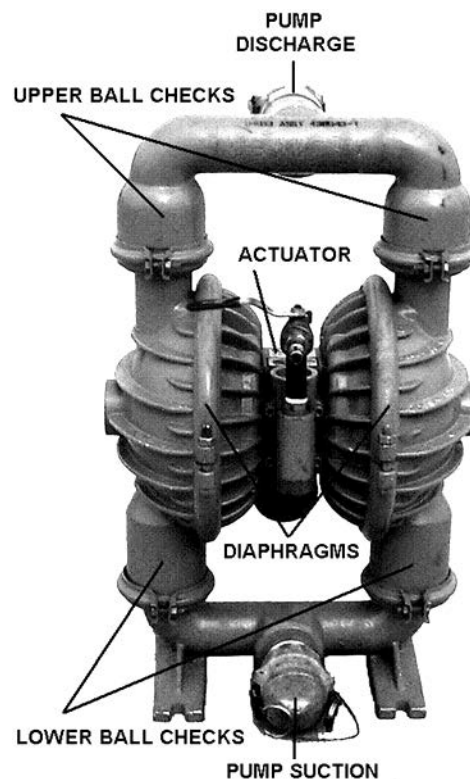

Figure 3-7. Double diaphragm pump.
The double diaphragm pump (fig. 3-7) gets its name from the two diaphragms on each side of the actuator valve. It is like two pumps working together. As we go through the pump's operation, keep in mind that each diaphragm has two sides—a compressed-air side and a liquid side. As the diaphragm assembly moves from side to side, the ball check valves (CV) that sit on resilient seats on the bottom of the pump lift up to allow fluid to be pulled in. The actuator valve slides to allow compressed air to pressurize one side of the first diaphragm. The pressurized side of the first diaphragm pushes the liquid contained on the other side of the same diaphragm up through the check ball on the top of the pump. The actuator valve slides again, letting air pressurize the second diaphragm on the other side of the pump, pulling the first diaphragm back in and pulling liquid up through the check ball on the bottom. This cycle repeats as long as the actuator valve is supplied with compressed air.